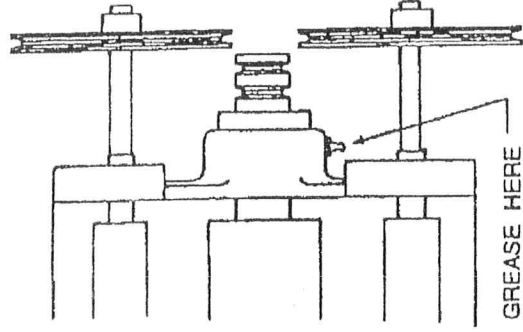

Fig. A-14
5. Grease regreasable bearing on cutterhead every 35 hours of operation, with 5-7 pumps from a grease gun (see fig. A-14). The grease supply interval is dependant on the kind and quality of the grease to be used as well as the operating conditions of the bearing. Do not over-grease!